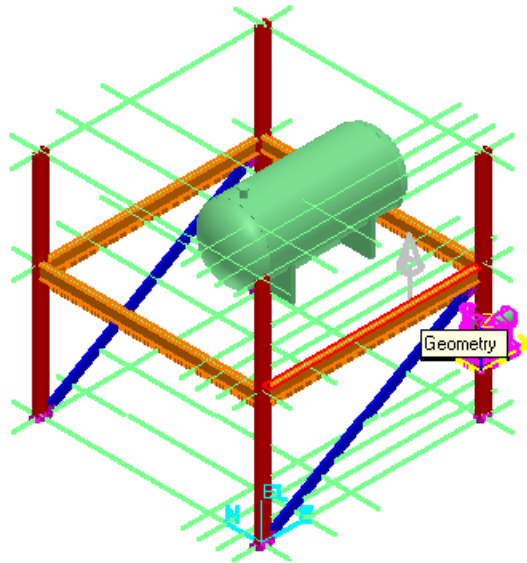

Figure 24: The Objects Selected For Adding a Positioning Relationship
3. Click the **Second Part Reference** button and select the top surface of a member beam. Figure 24 shows the objects selected.